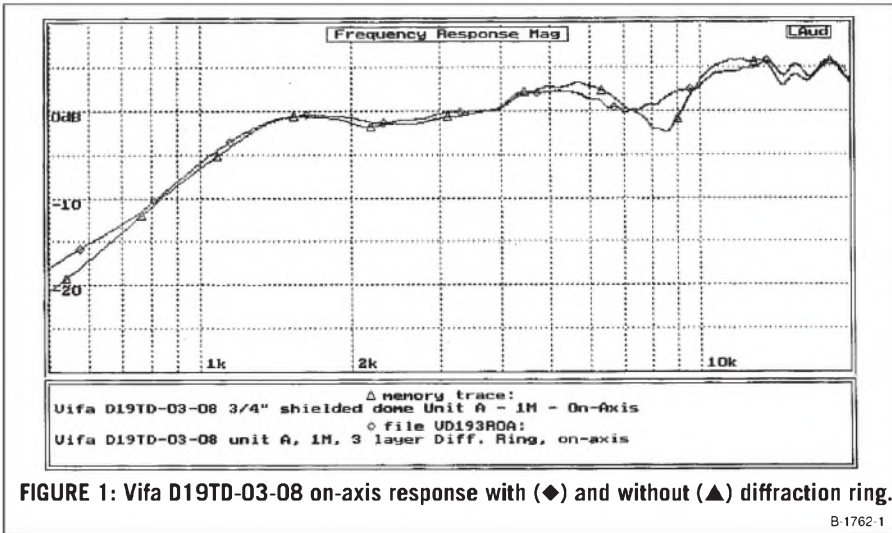

FIGURE 1: Vifa D19TD-03-08 on-axis response with (◆) and without (▲) diffraction ring.
A fix for the surface-mounted tweeter problem is to put a diffraction ring (DR) about the tweeter faceplate. You make this of multiple concentric rings of cardboard or similar material with diameters that increase as you move from the front of the tweeter faceplate to the front panel. *Figure 1* shows the measured on-axis response for the surface-mounted Vifa D19TD-03-08 tweeter used in CSA, with and without a diffraction ring, showing the major improvement this simple fix offers.
The woofer-to-tweeter crossover occurs at about 3.8kHz, just a bit below Vifa’s minimum recommendation of 4kHz. The coil (L3) and parallel resistor (R2) in the high-pass serve to correct the tweeter’s rising high-frequency response, clearly shown in Fig. 1.